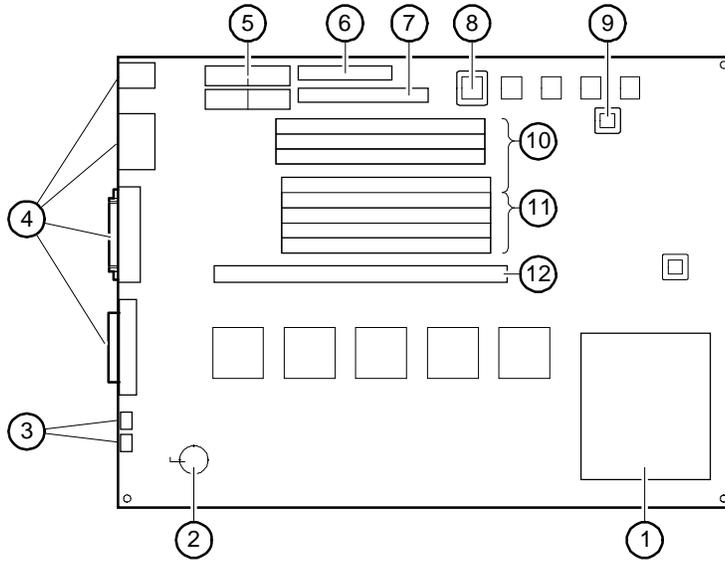

Figure 4-3 Motherboard Components
Figure 4-3 show the locations of the motherboard components. Table 4-2 lists the motherboard components.
SIMMs must be of the same capacity and must always be added in sets of four into one of two available memory banks, bank 0 or bank 1 (see items 10 and 11 in Figure 4-3). If all SIMM slots are already used, you can still increase your system's memory by removing four SIMMs from one of the banks and replacing them with four larger SIMMs. The system requires 72-pin parity SIMMs that have an access time of 60 ns or 70 ns.